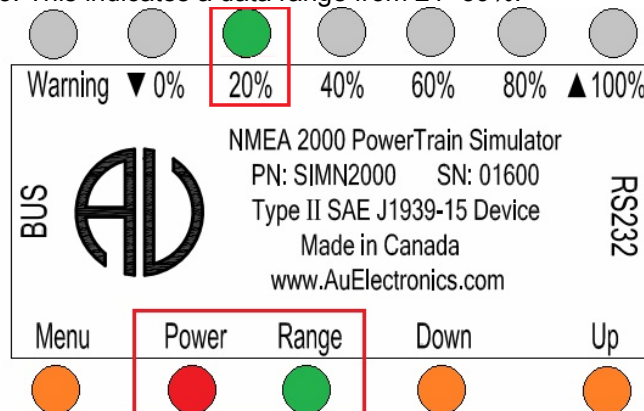

Figure 3-3 Power, Range, 20% LED on, indicating data range is from 21% to 39%
- If keep pressing **Up** button, the control step value will keep increasing. The 20% LED will then be always on, as shown in Figure 3-3. This indicates a data range from 21- 39%.